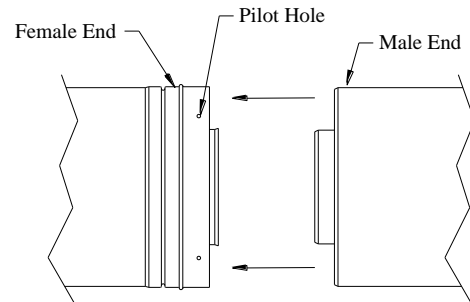

Fig 6. (DT-M Joint Assembly)
- a. The female end of each vent segment has a red seal in the inner vent. The female end should always point away from the appliance (See Fig 6).